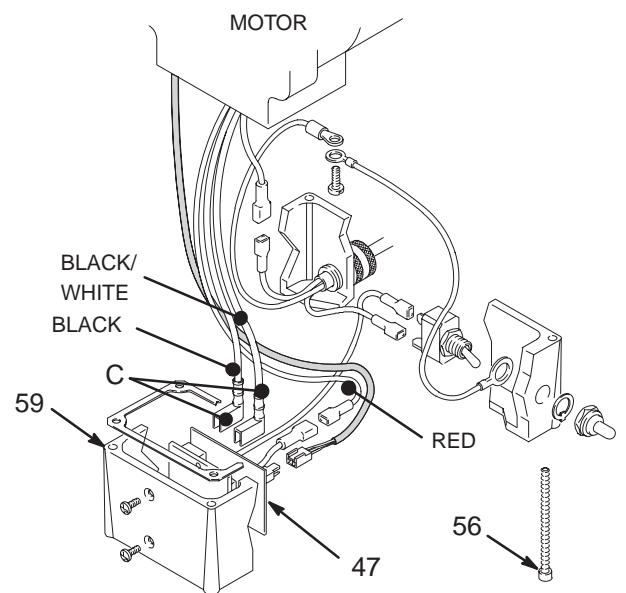

Fig. 5
Remove the junction box screws (56). Lower the junction box. Disconnect the two leads (C) from the motor to the board (47). See Fig. 5.